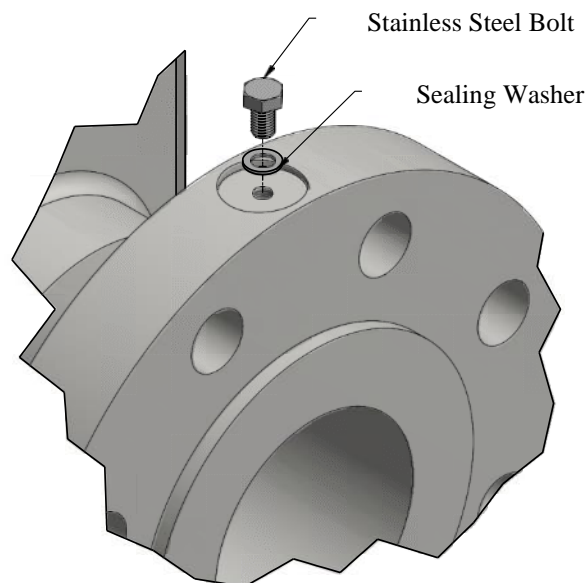

Figure 2.1 Stainless steel bolt and washer in tapped hole of meter body end flange
4. Remove the plug bolts and sealing washers from the tapped holes on top of each meter body end flange and set them aside. The plug bolts will be replaced after the hoist ring is no longer required, as shown in Figure 2.1.